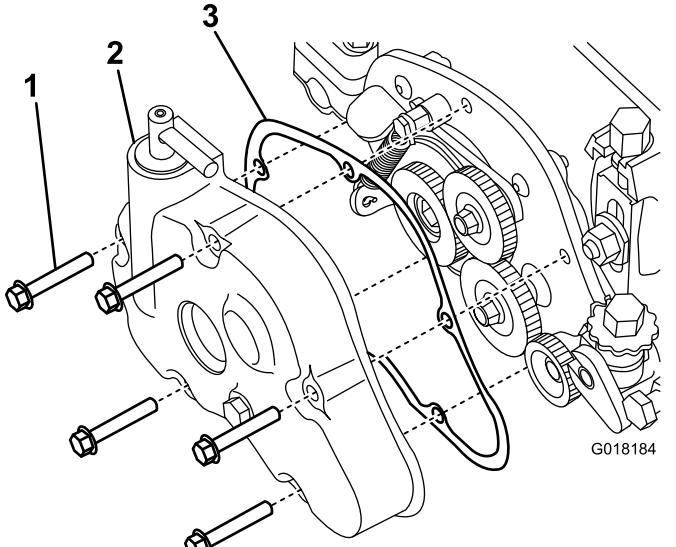

Figure 15
13. Fill the gearbox cover with approximately 0.15 L (5 oz) of Mobil XHP-221 or equivalent and mount it to the groomer housing assembly with the gasket in between using 5 bolts (Figure 15).